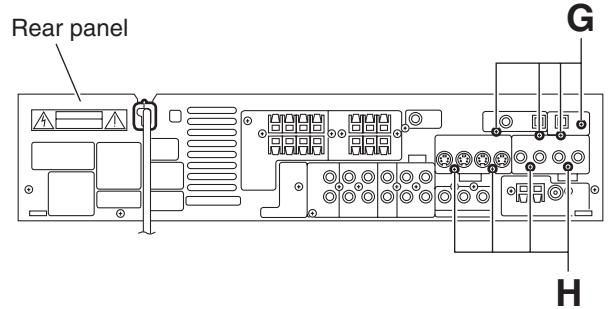

Fig.6
### 3.1.4 Removing the DSP board (See Figs.6 and 7)
- (1) From the back side of the main body, remove the four screws **G** attaching the DSP board to the rear panel. (See Fig.6.)
### 3.1.5 Removing the video jack board (See Figs.6 and 7)
- (1) From the back side of the main body, remove the four screws **H** attaching the video jack board. (See Fig.6.)